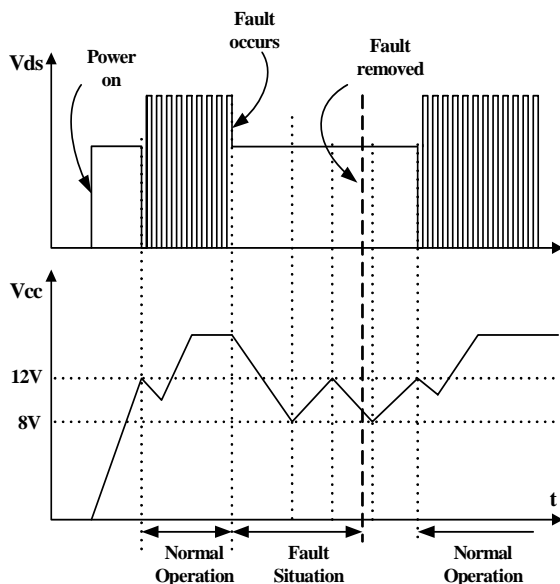

Figure 19. Auto Restart Operation
3. Protection Circuit: The FSCM0765R has several self protective functions such as over load protection (OLP), over voltage protection (OVP) and thermal shutdown (TSD). Because these protection circuits are fully integrated into the IC without external components, the reliability can be improved without increasing cost. Once the fault condition occurs, switching is terminated and the SenseFET remains off. This causes Vcc to fall. When Vcc reaches the UVLO stop voltage of 8V, the current consumed by the FSCM0765R decreases to the startup current (typically 25uA) and the current supplied from the DC link charges the external capacitor (Ca) that is connected to the Vcc pin. When Vcc reaches the start voltage of 12V, the FSCM0765R resumes its normal operation. In this manner, the auto-restart can alternately enable and disable the switching of the power SenseFET until the fault condition is eliminated (see Figure 19).